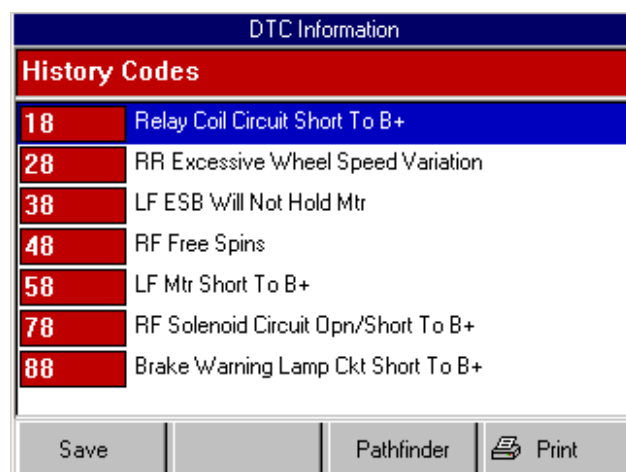

Figure 5.6: DTC Information Screen
- If the vehicle's ECU stores only current codes, the DTC Information screen appears (see figure 5.6). Go to Step 4.